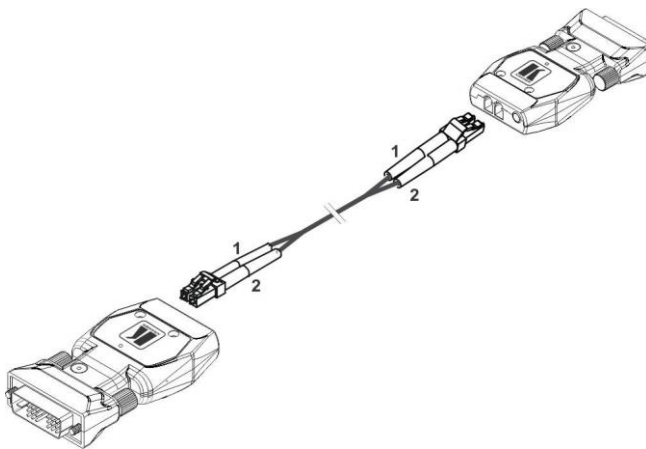

Figure 2: Connecting the Fiber Optic Cable
3. Connect the duplex LC fiber cable to the **616T** and **616R** modules, one connector at a time, as illustrated in Figure 2.
Do not use any intermediate cable or adapter between them, and connect cables 1 and 2 as indicated in Figure 2.